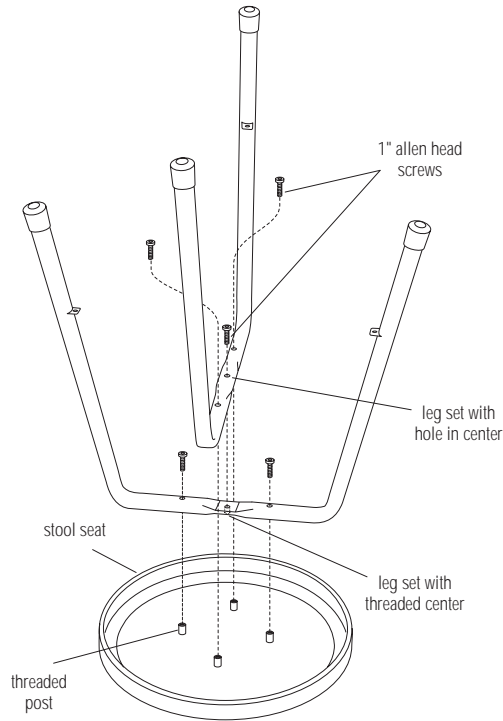

Figure 1
1. Begin leg assembly by first placing the stool seat, bottom side up, on a flat protective surface (Figure 1).
2. Position the leg set with the threaded center onto the stool seat and align the mounting holes with two of the threaded posts on the stool seat as illustrated. Hand-tighten the leg set to the stool with two 1" allen head screws. Do not tighten completely at this time (Figure 1).
3. Position the leg set with hole in center over the remaining two threaded posts on the stool seat. Hand-tighten the leg set to the stool with two 1" allen head screws. Do not tighten completely at this time (Figure 1).
4. Insert and hand-tighten a 1" allen head screw into the center hole where the two leg sets intersect (Figure 1).
5. Securely tighten all five 1" allen head screws with the supplied allen wrench (Figure 1).